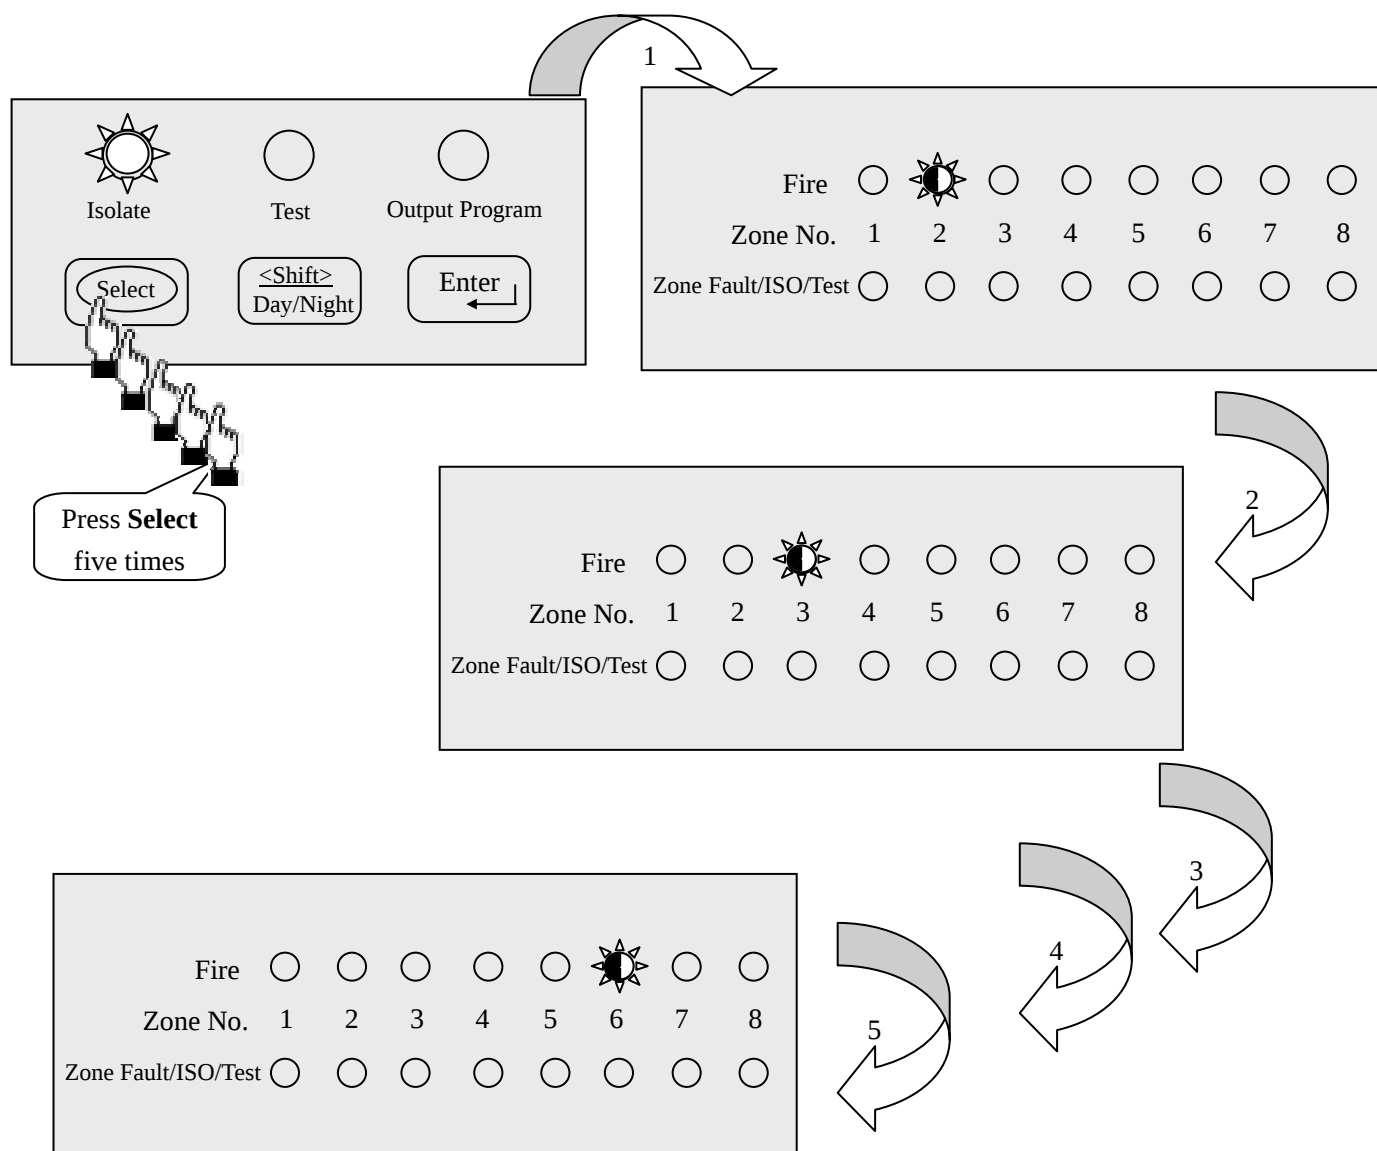

Fig.4.2.2f
- 4.2.5.3.2 Press the **Select** pushbutton to select a zone or an output (alarm output or fault output), then press the **Shift** pushbutton to change the isolate state of the selected zone (see Fig.4.2.2g). The **Zone Fault /ISO/Test** indicator in the selected zone is illuminated to indicate the isolating state and the **Fire** indicator in the corresponding zone is illuminated to indicate the selecting state. E.g., the following operation is for selecting zone 6. See Fig.4.2.2f.